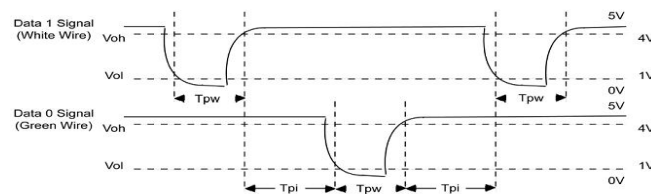

Figure 1 Sequence Diagram
The number of enrolled users, will displayed on the [Records] interface; the total face capacity and used capacity as well as the total record capacity and used capacity are graphically displayed respectively, as shown in **Figure 1**.
2. Click the icon **ZKiVision** on the mobile device to start the video player. **Figure 1** shows the initial interface of the software.
Figure 1 is a sequence diagram in which the card reader sends digital signals in bit format to the access controller. In this sequence diagram, Wiegand follows the SIA's access control standard protocol for the 26-bit Wiegand card reader (one pulse time ranges between 20 μ s and 100 μ s, and the pulse jump time ranges between 200 μ s and 20ms). Data1 and Data0 are high level (larger than V_{oh}) signals till the card reader prepares to send a data stream. The asynchronous low-level pulse (smaller than V_{ol}) generated by the card reader is sent to the access control panel (The saw-tooth wave as shown in Figure 1) through Data1 or Data0. Data1 and Data0 pulses will neither overlap nor be generated synchronously. Table 1 lists the maximum and minimum pulse width (a consecutive pulse) and pulse jump time (time between pulses) allowed by the F series fingerprint access control terminal.